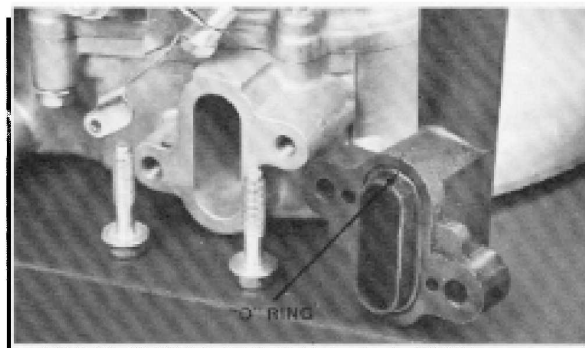

Figure 4-62
1. Install "O" ring fully into the groove on the oil fill tube. See Fig. 4-62.